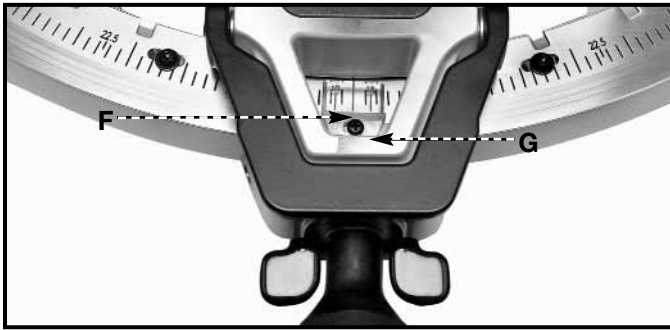

Fig. 17
- Adjust the miter cursor (F) Fig. 17 so that the pointer is aligned with the 0° mark on the scale by loosening the screw (G), adjusting the cursor (F), and tightening the screw (G).